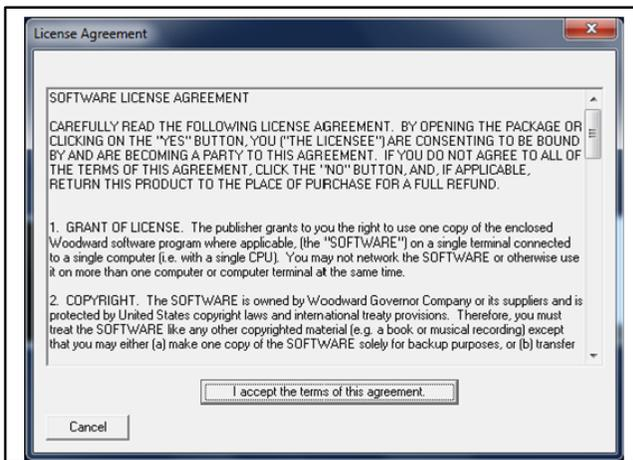

Figure 13 License Agreement Screen
4.11 Start the Kohler ACT Tool on the personal computer and accept the license agreement. See Figure 13.